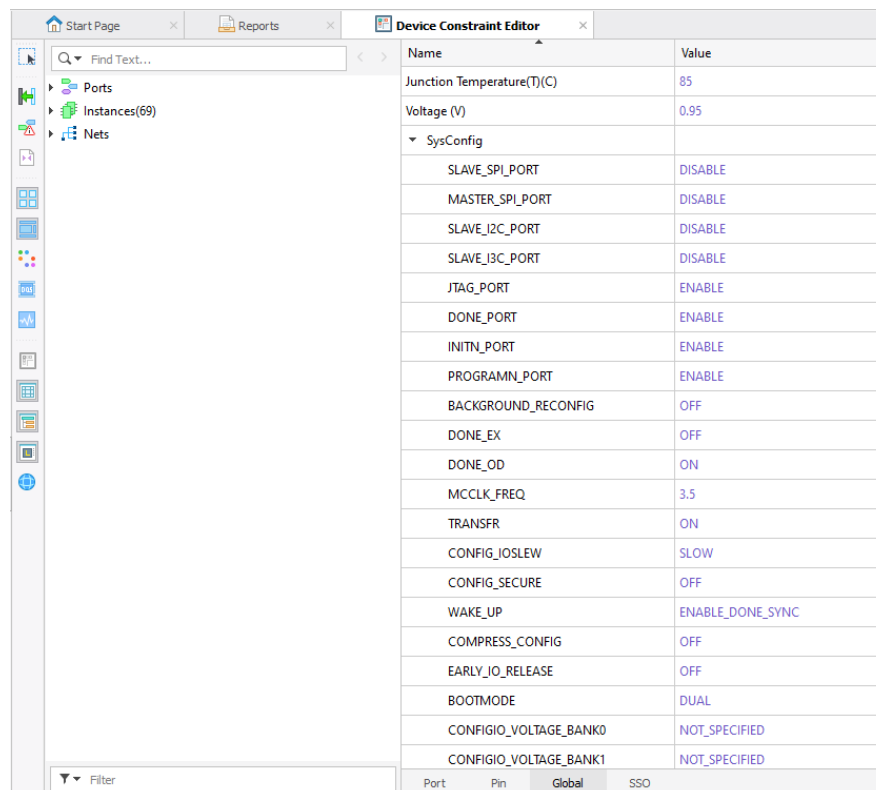

Figure 2.3. Lattice Radiant Software Global Settings
1. Open the Lattice Radiant software and edit the **Global Settings** under **Device Constraint Editor** as shown in Figure 2.3.